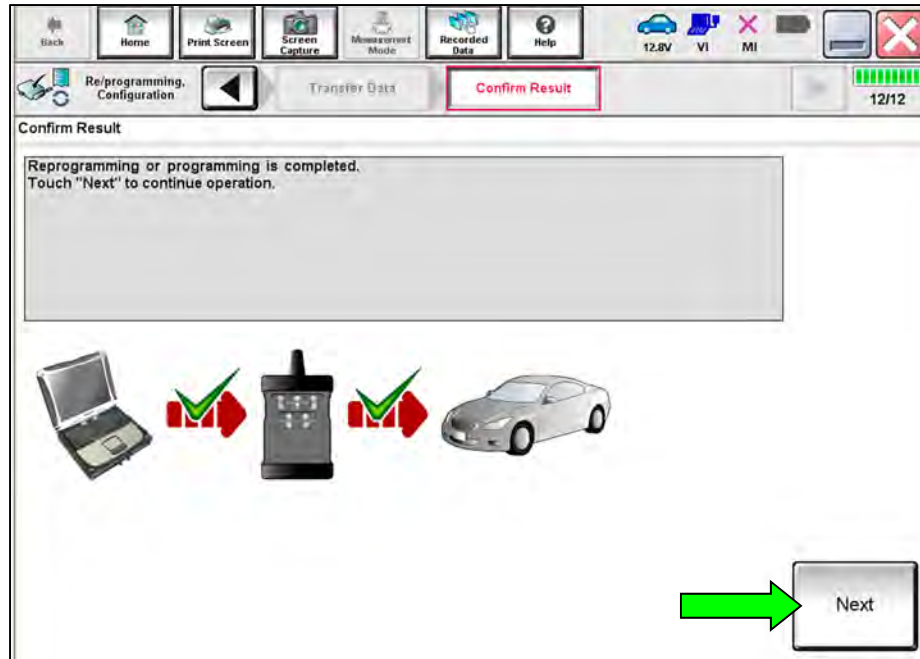

Figure 11
**HINT:** When the screen in Figure 11 displays, A/C Amplifier reprogramming is complete. If the screen in Figure 11 does not display (indicating that reprogramming did not complete), refer to the information on the next page.